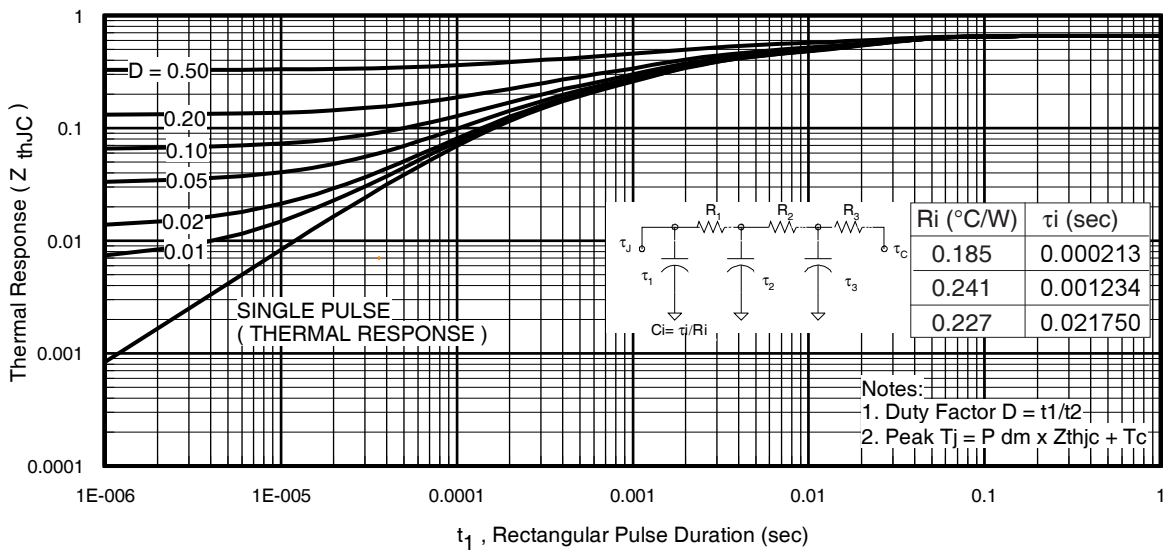
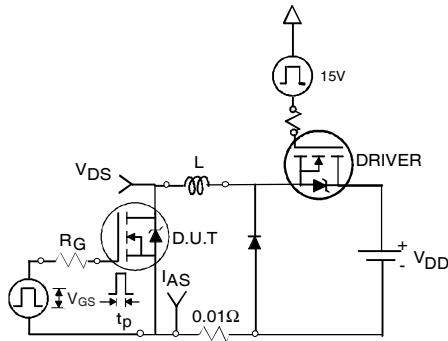

Fig 11. Maximum Effective Transient Thermal Impedance, Junction-to-Case
Fig 12a. Unclamped Inductive Test Circuit
- ① Repetitive rating; pulse width limited by max. junction temperature. (See fig. 11).
- ② Limited by T_{Jmax} , starting $T_J = 25^\circ\text{C}$, $L = 0.079\text{mH}$, $R_G = 25\Omega$, $I_{\text{AS}} = 75\text{A}$, $V_{\text{GS}} = 10\text{V}$. Part not recommended for use above this value.
- ③ Pulse width $\leq 1.0\text{ms}$; duty cycle $\leq 2\%$.
- ④ $C_{\text{oss eff.}}$ is a fixed capacitance that gives the same charging time as C_{oss} while V_{DS} is rising from 0 to 80% V_{DSS} .
- ⑤ Limited by T_{Jmax} , see Fig.12a, 12b, 15, 16 for typical repetitive avalanche performance.
- ⑥ This value determined from sample failure population. 100% tested to this value in production.
- ⑦ This is only applied to TO-220AB package.
- ⑧ When mounted on 1" square PCB (FR-4 or G-10 Material). For recommended footprint and soldering techniques refer to application note #AN-994.
- ⑨ Calculated continuous current based on maximum allowable junction temperature. Bond wire current limit is 120A. Note that current limitations arising from heating of the device leads may occur with some lead mounting arrangements.
- ⑩ All AC and DC test condition based on former Package limited current of 75A.
3. Equation below based on circuit and waveforms shown in Figures 12a, 12b.
$Z_{thJC}(D, t_{av})$ = Transient thermal resistance, see figure 11)